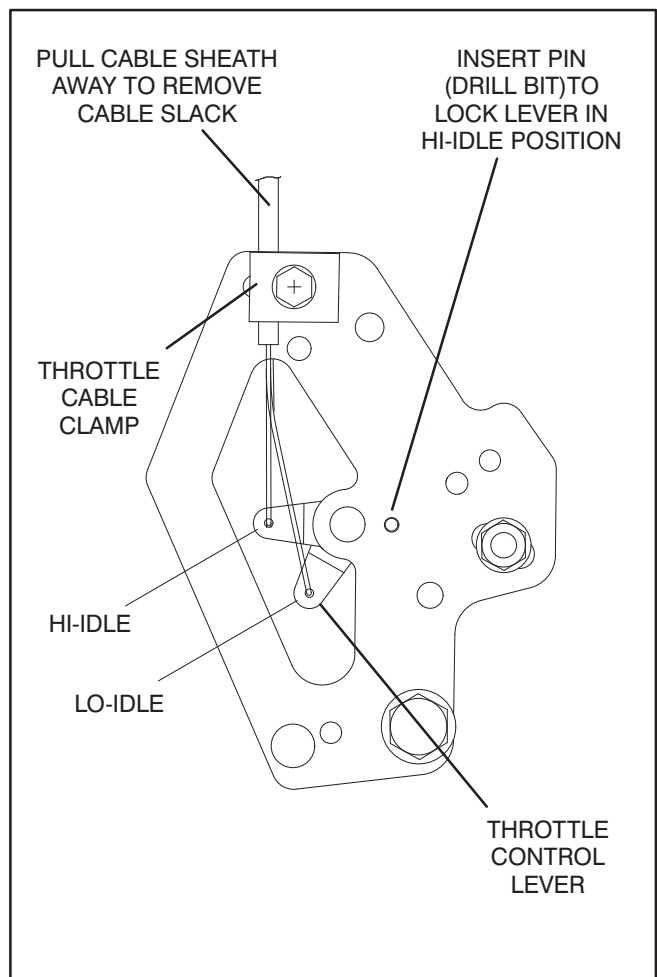

FIGURE 8-7. THROTTLE CABLE ADJUSTMENT AT SPEED CONTROL PLATE
- 1.. Shut off the engine and loosen the throttle cable clamp on the speed control plate (Figure 8-7).